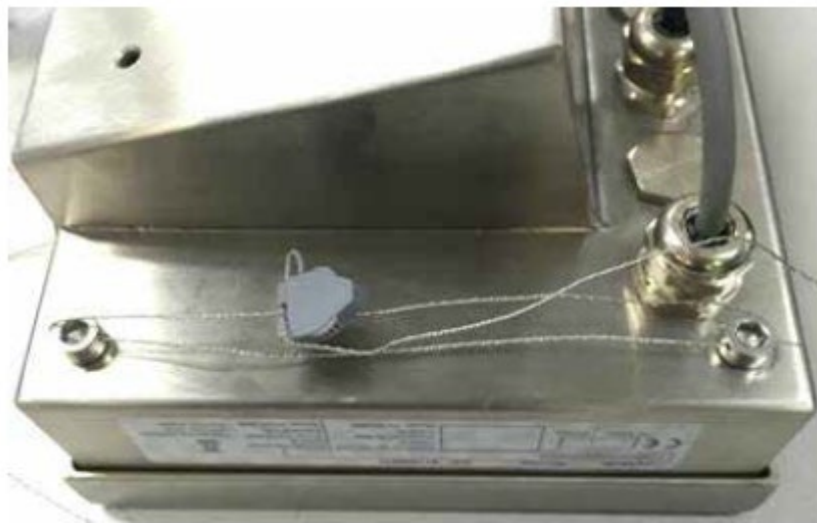

Figure 2-17: Sealing Method
IND256x lead seal details are shown in Figure 2-17. The procedure is as follows:
2. Pass the seal wire through two adjacent sealing bolts and then fix the seal retainer as shown in Figure 2-17.